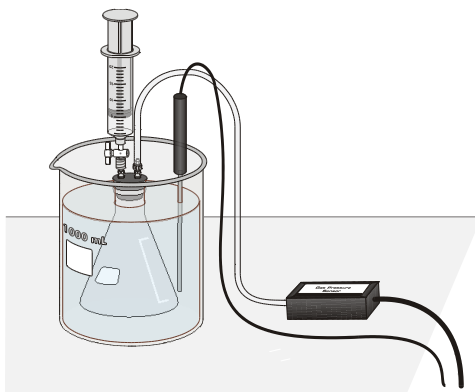

FIGURE 1
7. Use the clear tubing to connect the white rubber stopper to the Gas Pressure Sensor. (About one-half turn of the fittings will secure the tubing tightly.) Twist the white stopper snugly into the neck of the Erlenmeyer flask to avoid losing any of the gas that will be produced as the liquid evaporates (see Figure 1).
9. Draw 3 mL of ethanol into the 20 mL syringe that is part of the Gas Pressure Sensor accessories directly from the stock bottle provided. Thread the syringe onto the valve on the white stopper (see Figure 1).